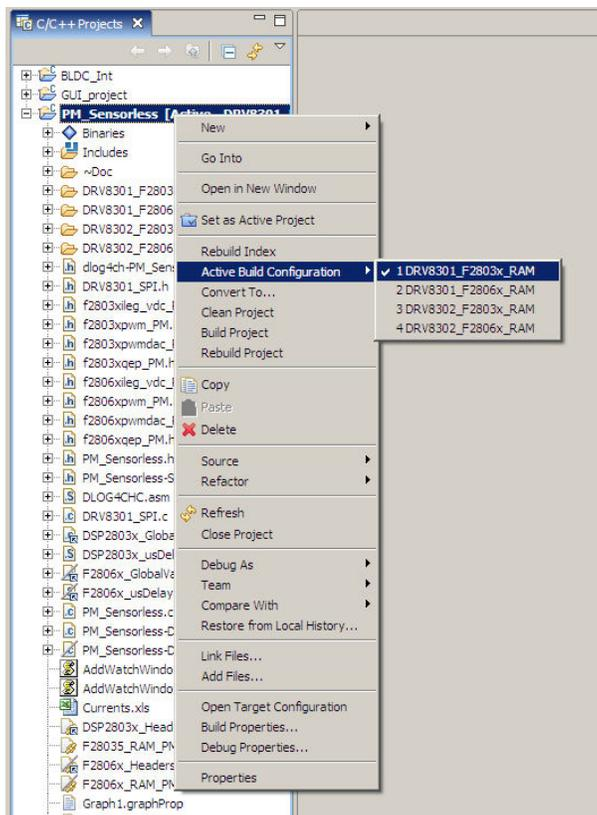

Figure 8 Selecting the DRV8301_F2803x_RAM configuration
- Each project has multiple build configurations to support different target MCUs or different DRV83xx base boards. You will need to select the build configuration that matches your hardware setup. As an example Figure 8 shows selection of the DRV8301-HC-EVM with a F2803x MCU. Right-click on an individual project and select Active Build Configuration-> DRV8301_F2803x_RAM configuration.